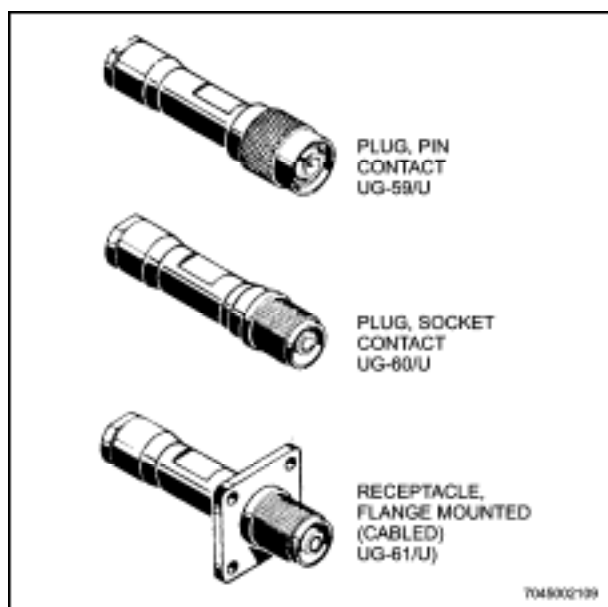

Figure 12-3 Typical HN Connectors
- b. **HN Series.** A high voltage (up to 5,000 volts), threaded coupling connector used with medium size coaxial cables. (See Figure 12-3.)